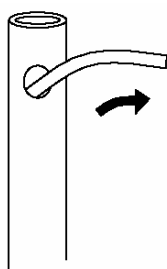

fig. 7.2a
- Make an 8mm hole on the pole through which the connecting cable should pass (fig. 7.2a).